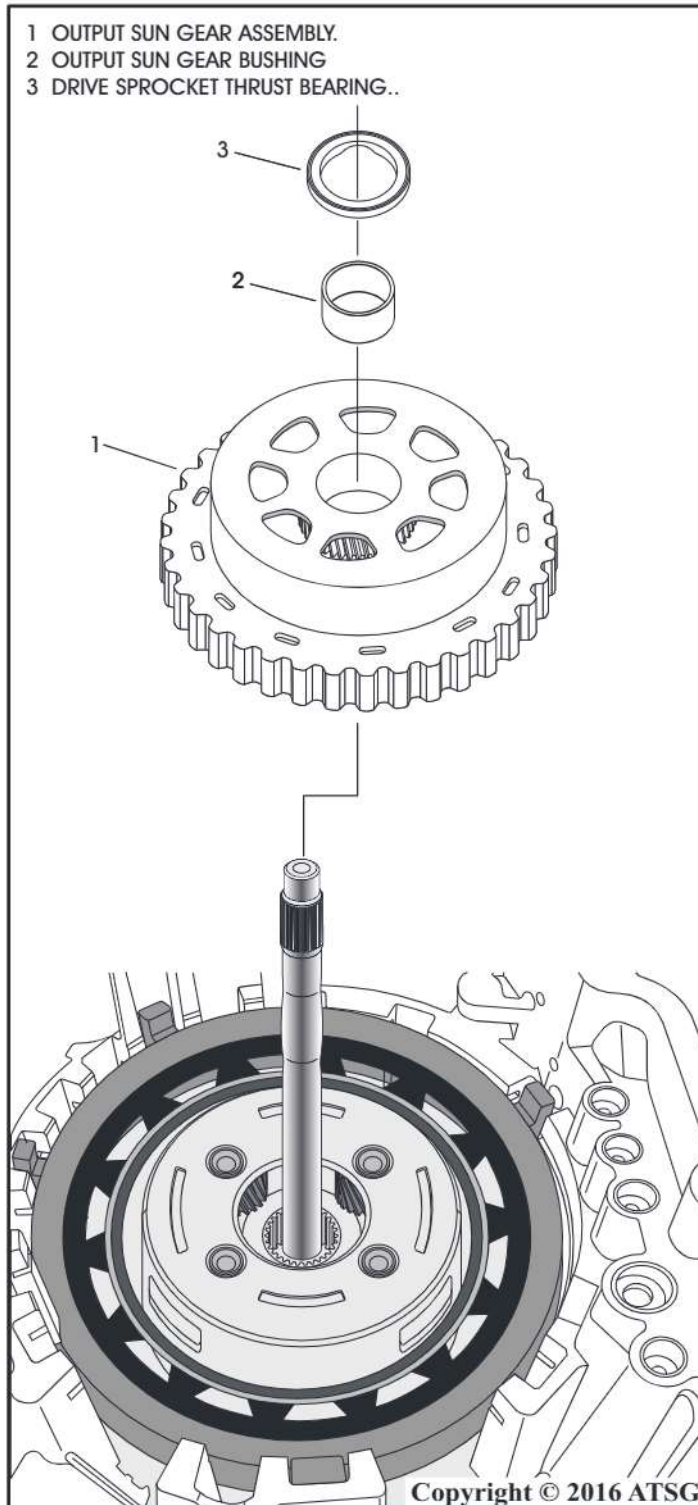

Figure 70
65. Remove the drive sprocket thrust bearing and check it for smooth operation as shown in Figure 70.
66. Remove the output sun gear assembly as shown in Figure 70 and check the output sun gear bushing for wear or galling.